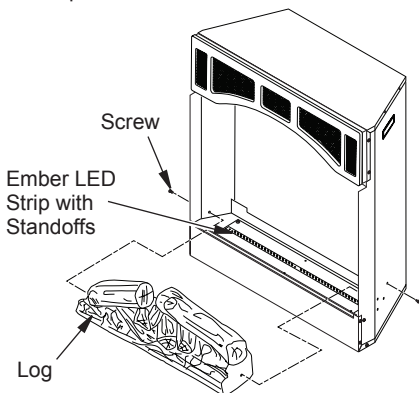

Figure 11 - Removing Log and Ember LED
2. Remove screws from each side of log that secure log to sides and remove log (see Figure 11).
2. Locate ember LED strip (see Figure 11). Disconnect wire (right side).
2. Remove screws from each side of log that secure log to base and remove log (see Figure 11, page 9).